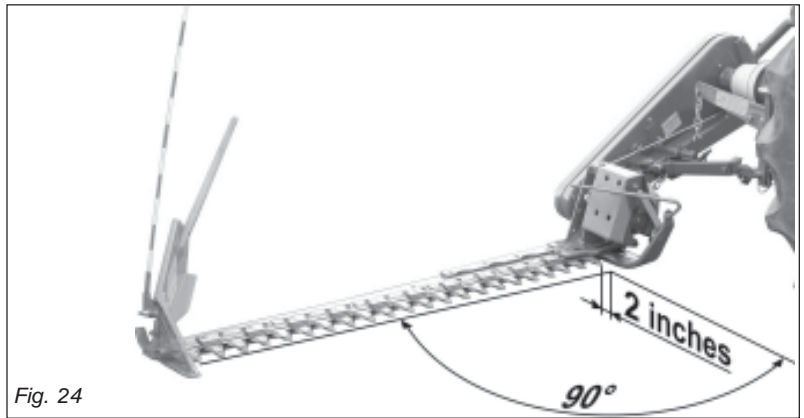

Fig. 24
- Fit the sickle bar by adjusting the tractor tie-rods so that, when the sickle bar attachment is fitted to the three points on the tractor, the external tip of the cutting arm is approximately 2 inches forward with respect to the arm base (Fig. 24).